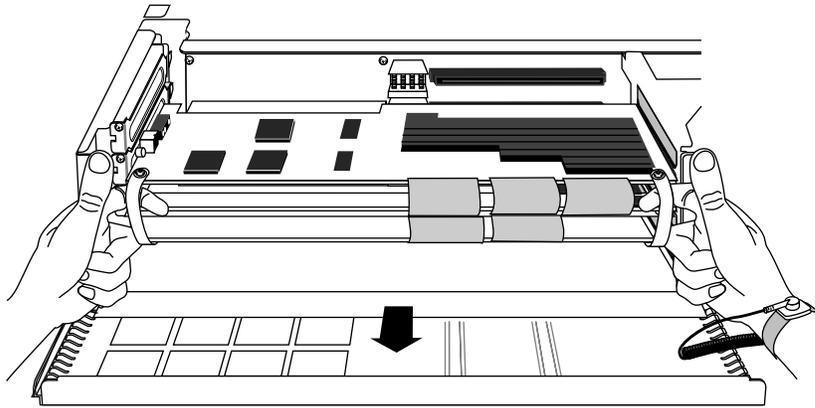

Figure 1-10 Removing the Graphics Board Set
5. Pull the straps to remove the graphics board set from the chassis. See Figure 1-10.